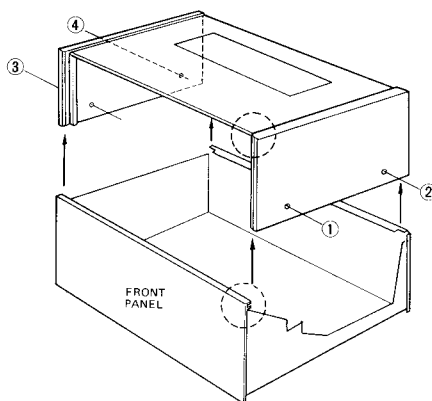

Fig. 4
1. Remove four (4) cabinet-mounting screws (① ~ ④), as shown in fig. 4.